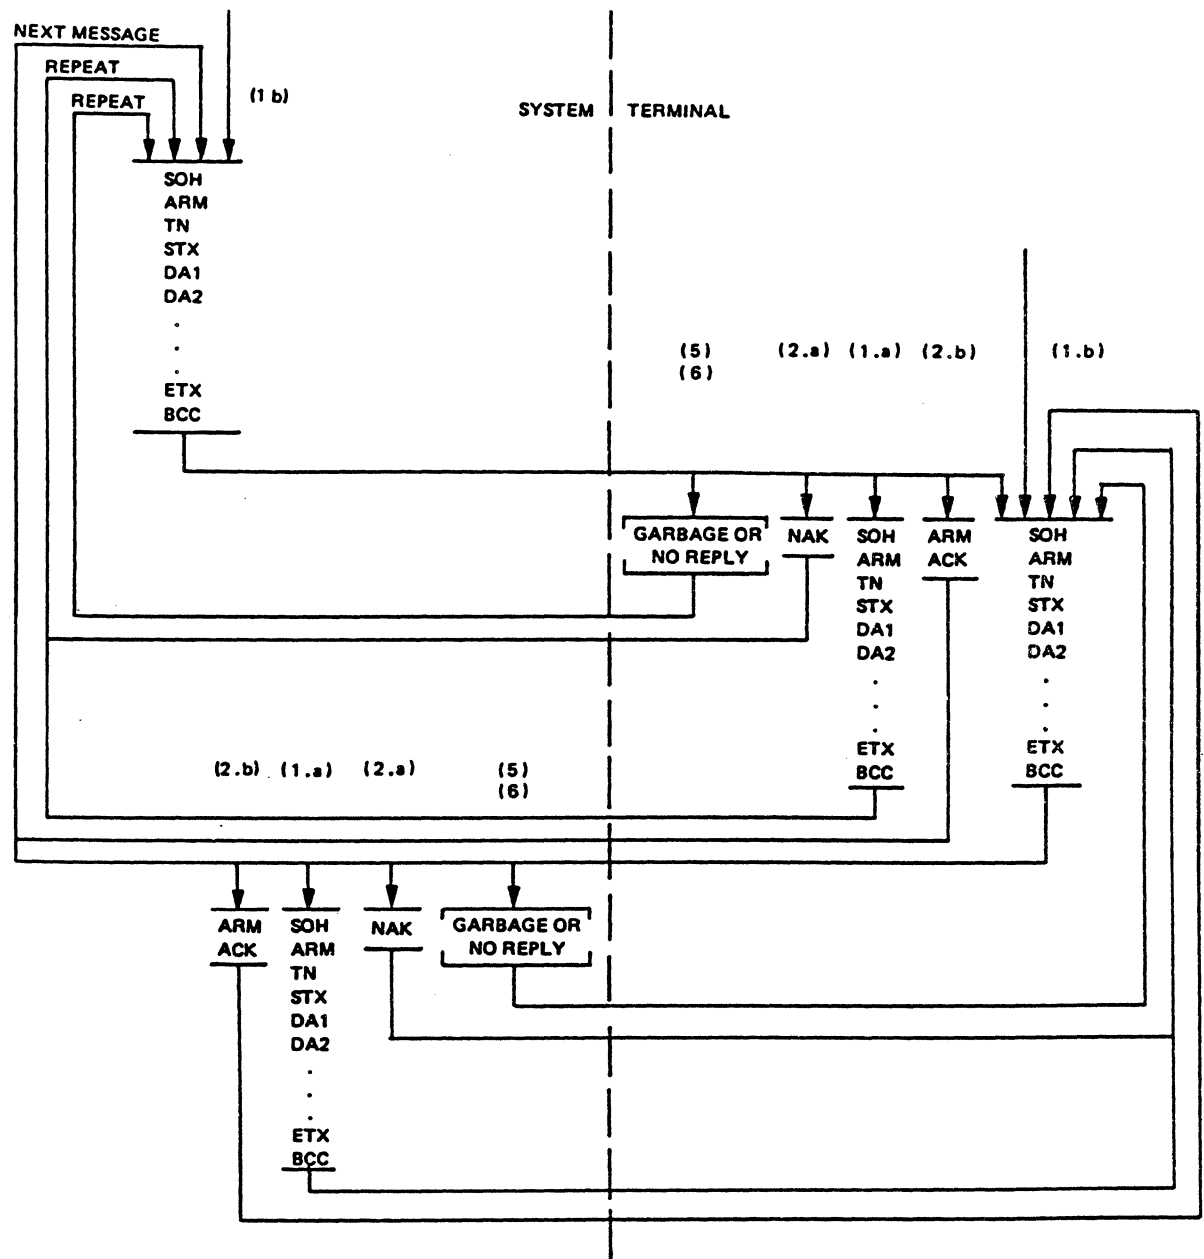

FIGURE 2-3. FLOW OF RJE LINE DISCIPLINE
A line routine with error detection and recovery is illustrated in Figure 2-3. The line routine, including the error detection and recovery aspects, is further expanded by the use of flags that establish communications between the Network Definition Language (NDL) transmit and receive requests and record the sequence of line routine operations. The use of the various characters illustrated in the line discipline is described under "Message Format" in this section.
Notes for Figure 2-3
The following notes refer to Figure 2-3. The parenthesized numbers in Figure 2-3 relate portions of the diagram to the following paragraphs.
6. If the terminal does not respond within a one-second time-out period to the last message sent by the system, the system retransmits the message without changing the TN character. Thus, the cycle reverts to step 1 in Figure 2-3.